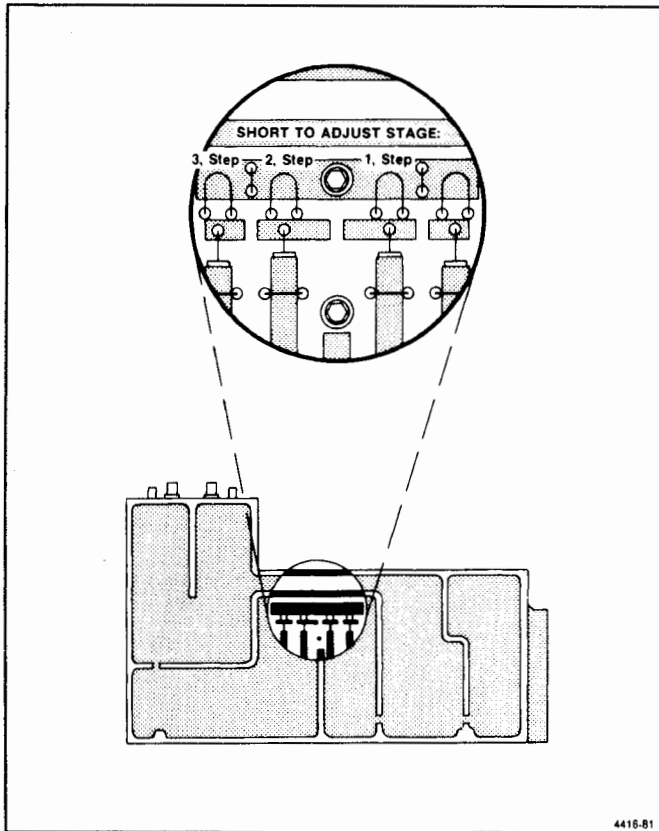

Figure 6-15. 829 MHz Converter filter tune tabs.
f. Adjust the $1/4$ wavelength lines in the filter in sequence, starting with the resonator at the 829 1 MHz input (see Figure 6-15). Adjustment is made by shorting the adjacent resonator to ground with a low inductance conductor, such as a broad blade screwdriver, then bend the loop or tab of the respective stub with a non-metallic tuning tool to change the series capacitance of the resonator.